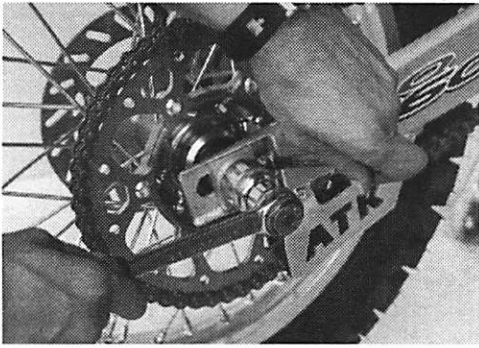

Figure 4.6
1. Loosen the 30 mm axle nut and the 12 mm locknut on each adjuster screw. (Figure 4.6)